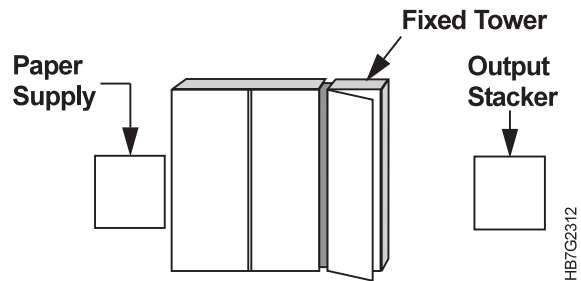

Figure 318. Right Side View of the InfoColor 70
- 18 Open the fixed tower door on the right side of the machine, as shown in Figure 318.